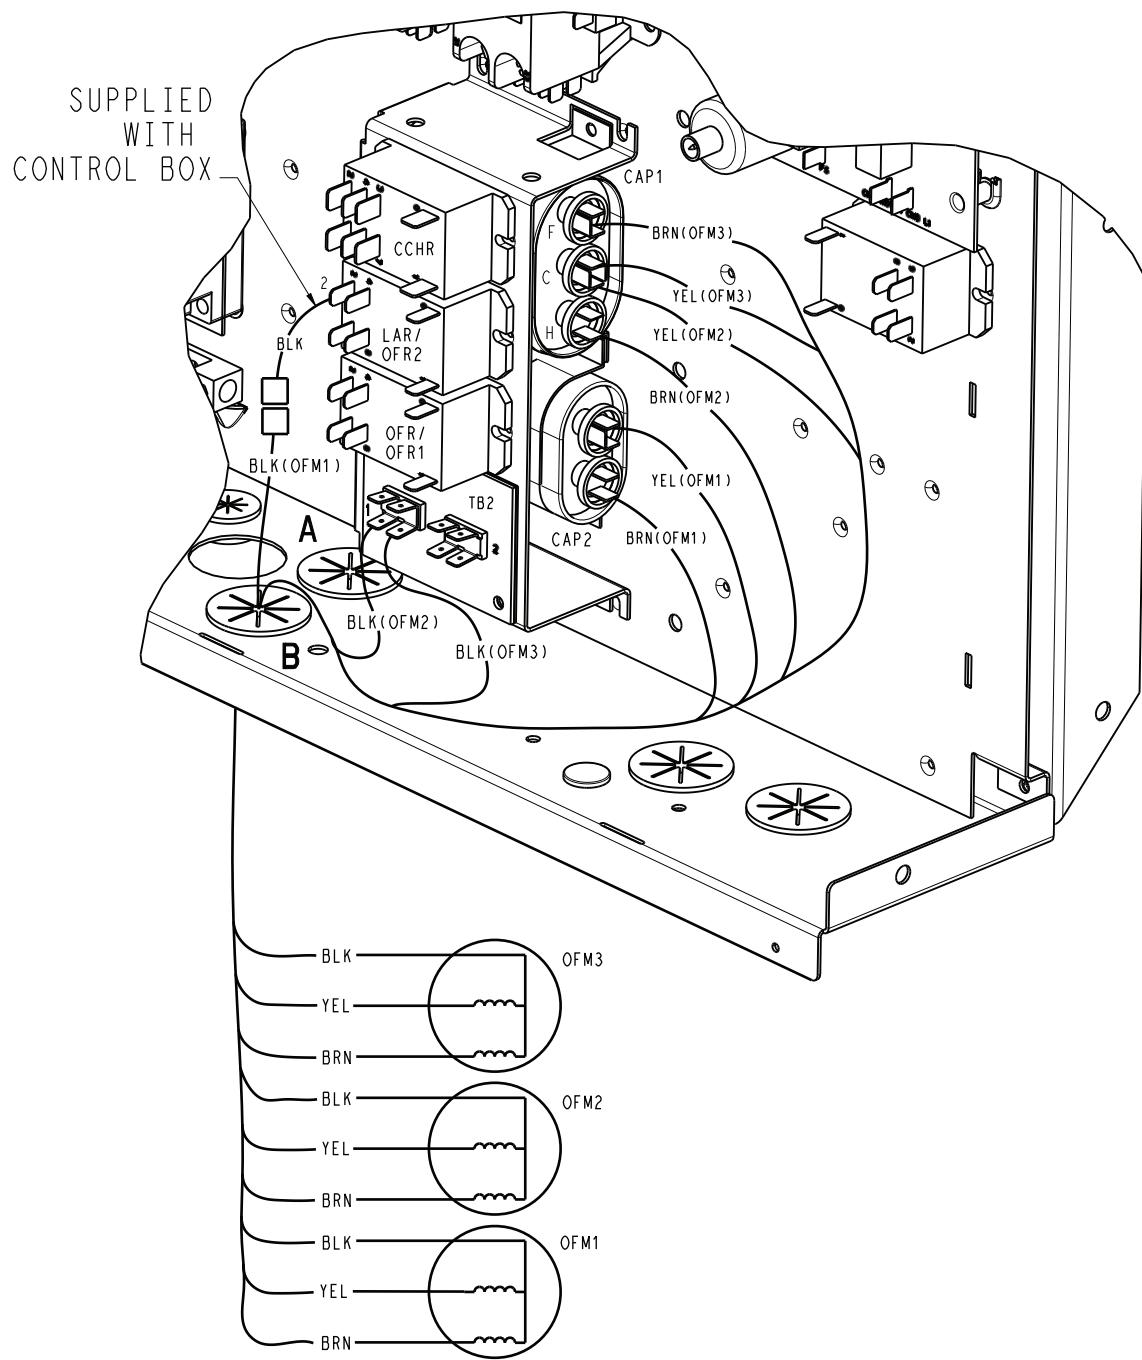

Fig. 9 — Cabinet B — Motor Wiring Inside Control Box
4. Disconnect condenser motor wires from control box connections. See Fig. 9 for connections.
6. Connect the yellow and brown wires from the new motor(s) to the condenser capacitor. Connect the black wires to the same location removed in Step 4 and Fig. 9.
- a. Route HV harness through the hole marked "B" in Fig. 9, with the heat shrink yellow wire end going into the control box.